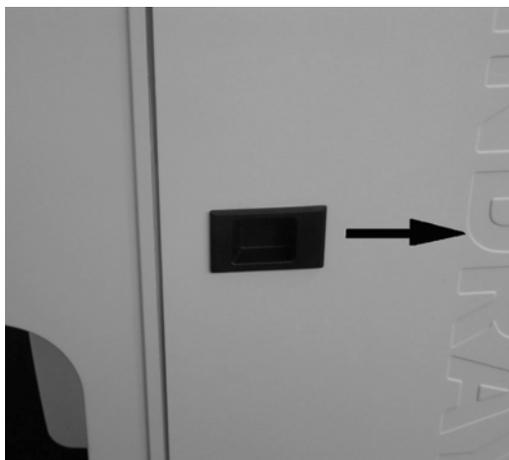

Figure10-15
1. Push the right door latch in the direction indicated in Figure10-15.